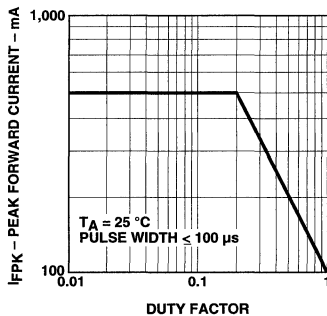

Figure 5. Maximum Peak Forward Current vs. Duty Factor.
2. Any pulsed operation cannot exceed the Absolute Max Peak Forward Current as specified in Figure 5.